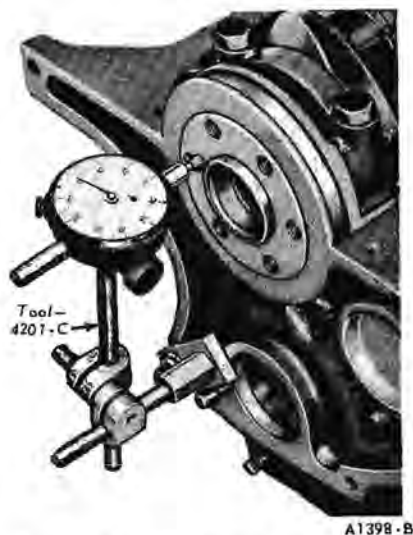

FIG. 58—Crankshaft End Play
17. Install a dial indicator so that the contact point rests against the crankshaft flange and the indicator axis is parallel to the crankshaft axis (Fig. 58).